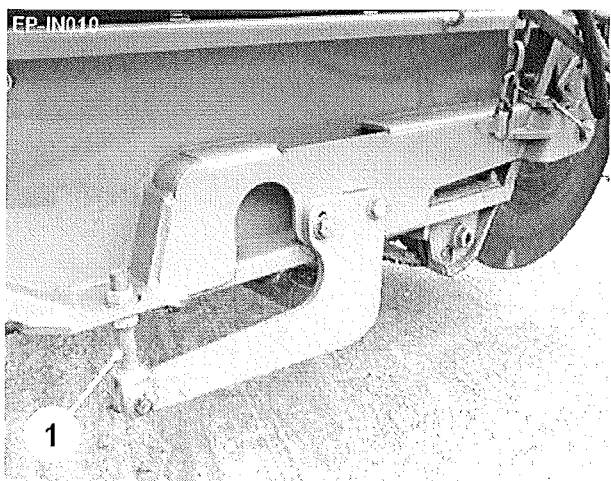

Fig 8
Share pitch adjusters (item 1, figure 8) are fitted to either side of the machine. The points of the share should be kept as high as practical whilst still maintaining adequate digging depth. Lowering the points will assist penetration but may increase risk of crop damage. If the soil has been adequately cultivated this should not be necessary. If the pitch is too steep (points lowered) it can greatly increase the loading or bulldozing effect on the share frame, especially when in hard or tough conditions. Regularly check for soil build-up on the share frame (especially in wet conditions) as a pad of soil at this point will create a considerable braking effect on the digger web. Ensure that the share frame is not in contact with the web bars at this point.